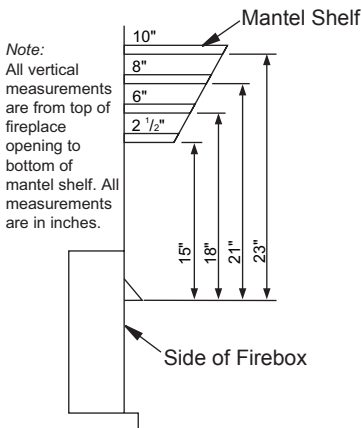

Figure 10 - Minimum Mantel Clearances for Built-In Installation
- C. For mantel clearances, see Figure 10 on page 12.
Built-in installation of this fireplace involves installing fireplace into a framed-in enclosure. This makes the front of fireplace flush with wall. An optional trim kit accessory is available (see *Accessories*, page 40). Trim will extend past sides of fireplace approximately 1/2". This will cover the rough edges of the wall opening. If installing a built-in mantel above the fireplace, you must follow the clearances shown in Figure 10, page 12. Follow the instructions below to install the fireplace in this manner.